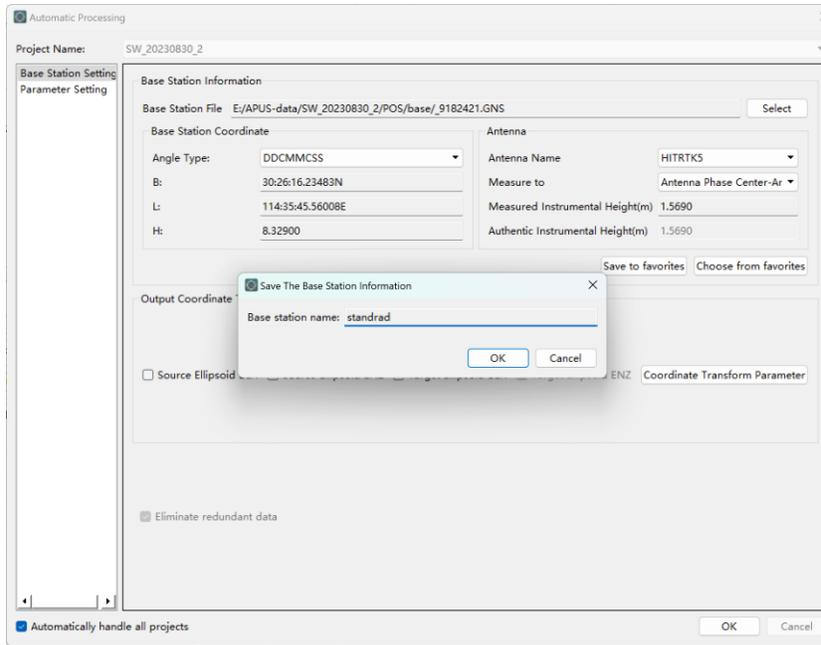

Figure 3-40 Save to Favorites
- (1) Base station setting includes base station file selection, base station coordinate setting, choose base station information from favorites, save to favorites, output coordinate type, and eliminating redundant data.
- (2) Coordinate points can be saved to favorites, set the name of the base station, set the base station name and click <OK> (Figure 3-40).